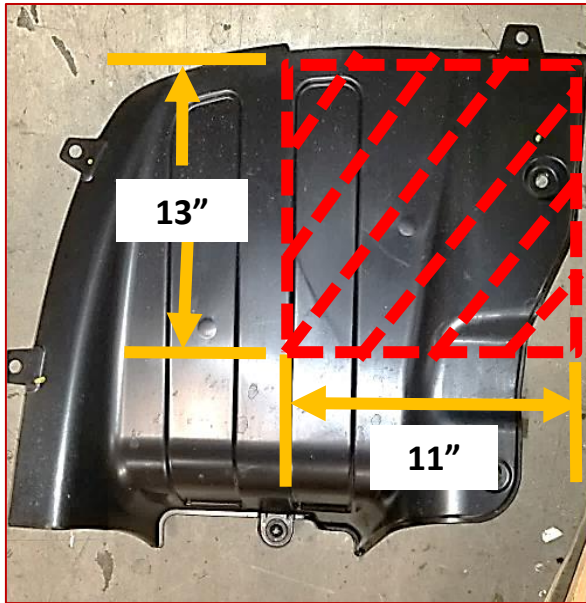

Figure 3
6. Trim underbody panel & heat shield – Using a tape measure, marker, tin snip, and utility knife, measure, mark, and trim the area on the panel and heat shield as shown in Figure 3 & 4.